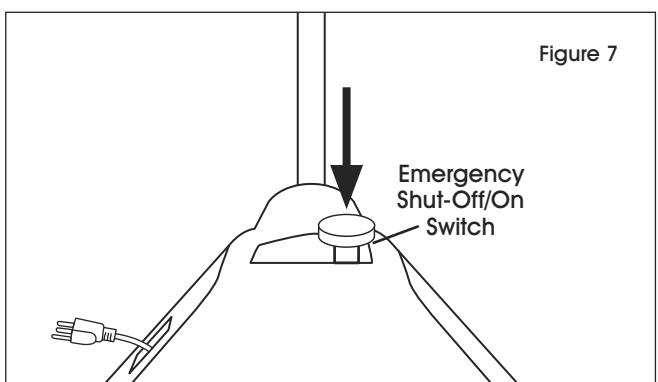

Figure 7
3. Push DOWN emergency shut-off/on switch into the OFF position. (See Figure 7)